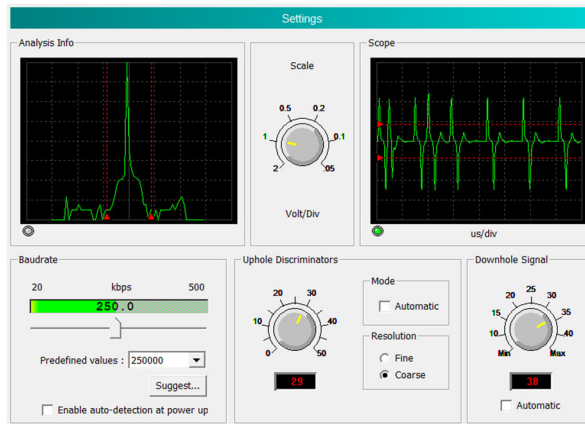
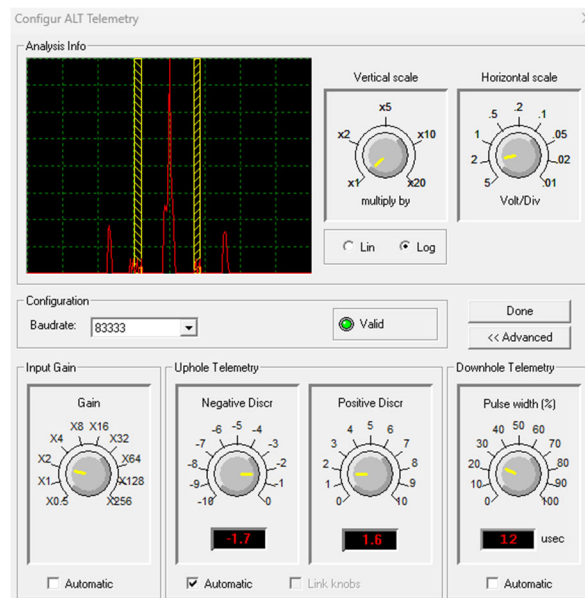

Figure 6-1: Tool communication settings – ALT logger.
Figure 6-2: Tool communication settings – Matrix.
- In the **Communication** panel, select **Settings**. Check **baudrate** is set to **41666** and **communication status** is **valid** (Figure 6-1 or Figure 6-2).